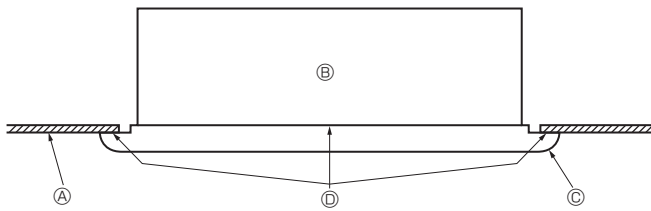

Fig. 5-6
- Next tighten the securing bolts (2) and securing screws (3) in the centre three places.
- Finally tighten the securing bolts (2) in the four places at left and right.
- At this point, make sure there are no gaps between the indoor unit and the front panel, and between the front panel and the ceiling surface. If there are gaps, the wind may come in and it may cause water to drip (Fig. 5-6).
5.4. Checks after installing (Fig. 5-6)